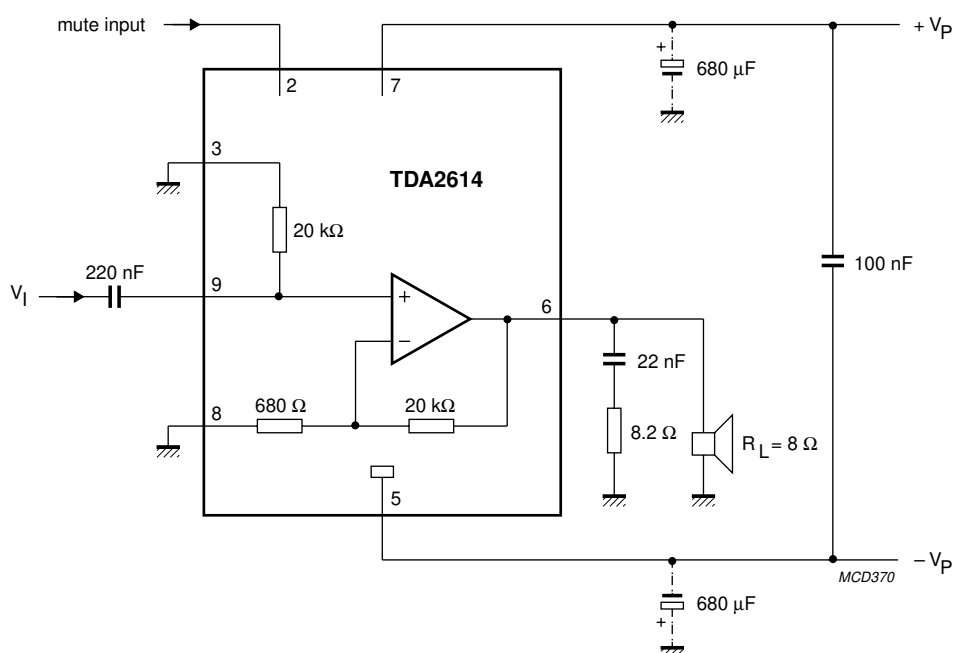

Fig.4 Test and application circuit with symmetrical power supply.
6. $\pm V_P = 12$ V; $R_L = 8$ Ω ; $T_{amb} = 25$ °C; $f = 1$ kHz; symmetrical power supply $I_{MUTE} < 30$ μ A. See Fig.4